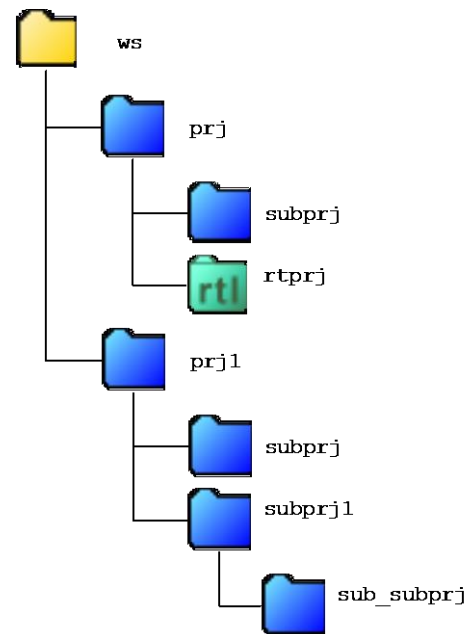

Figure 4-10 Structural policy of instance tree
- Process of lower hierarchy that belongs to a certain intermediate project, is searched from project corresponding to the sub project in project management window as well as applicable project. For example, subprj1 and sub_subprj become options of lower hierarchy for processes that belong to intermediate project subprj1 as shown in Figure 4-10.
- Process of lower hierarchy that belongs to a certain RTL project, is searched from corresponding project. Since sub projects cannot be created for RTL projects, that is why processes of sub projects are not used. For example, process that belongs to rtpj becomes option of lower hierarchy for process that belongs to RTL project rtpj as shown in Figure 4-10.
- Instance tree is created for every project (prj, prj1 in Figure 4-10) under workspace. Therefore, process with same name as the process that exists under the tree that has prj of Figure 4-10 as root can be created under the tree that takes prj1 as root. Details of this item are explained in section 4.4.3.